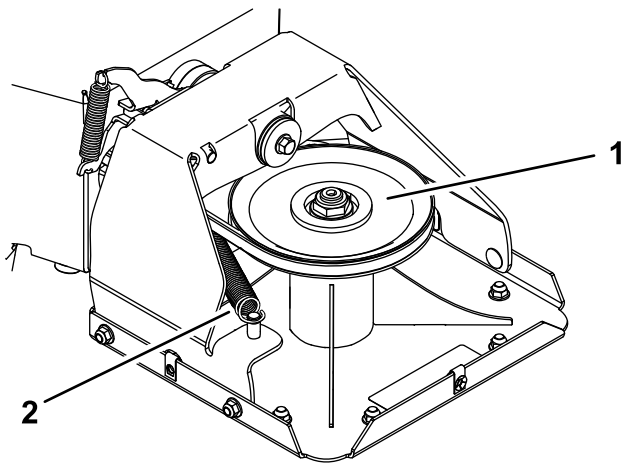
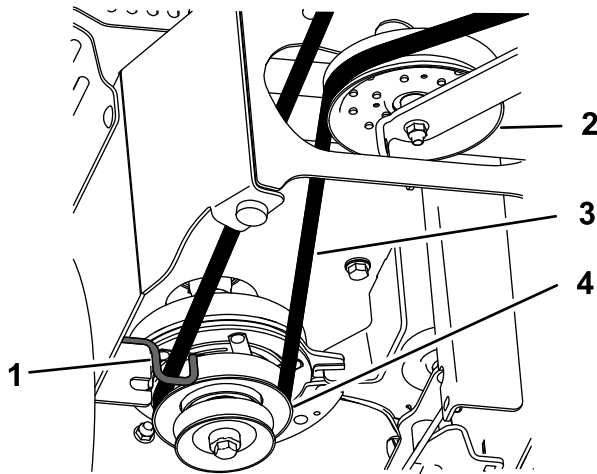

Figure 34
Figure 35
7. Detach the extension spring (Figure 34).
9. Route the new belt around the clutch pulley, through the belt guide, along the idler pulley, and around the deck pulley (Figure 34 and Figure 35).
10. Install the extension spring (Figure 34).